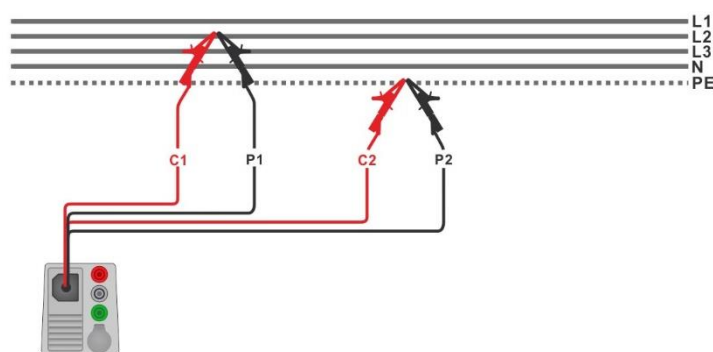

Figure 7.44: Connection of 4-wire test lead
- Connect 4-wire test lead to the object under test, C1, P1 terminals to phase and C2, P2 terminals to PE; see **Figure 7.44**.